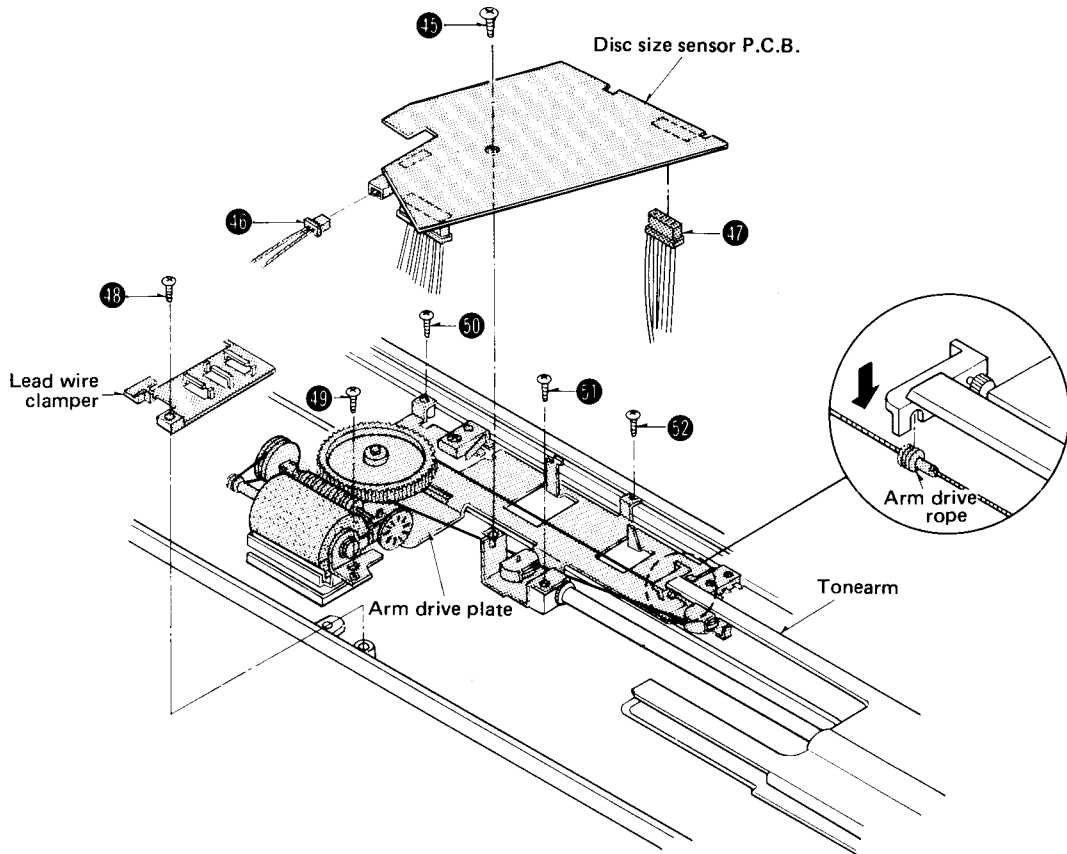

Fig. 12
2. Remove the disc size sensor P.C.B. setscrew ④⑤ and connectors ④⑥, ④⑦. (Fig. 12)
3. To remove the disc size sensor P.C.B. completely, remove the upper cabinet and the lead wire clasper setscrew ④⑧ in Fig. 12. (Refer to "How to remove the upper cabinet.")
4. Remove the arm drive rope from the tonearm, and remove the arm drive plate setscrews ④⑨ ~ ④⑫. Then the arm drive board can be detached. (Fig. 12)